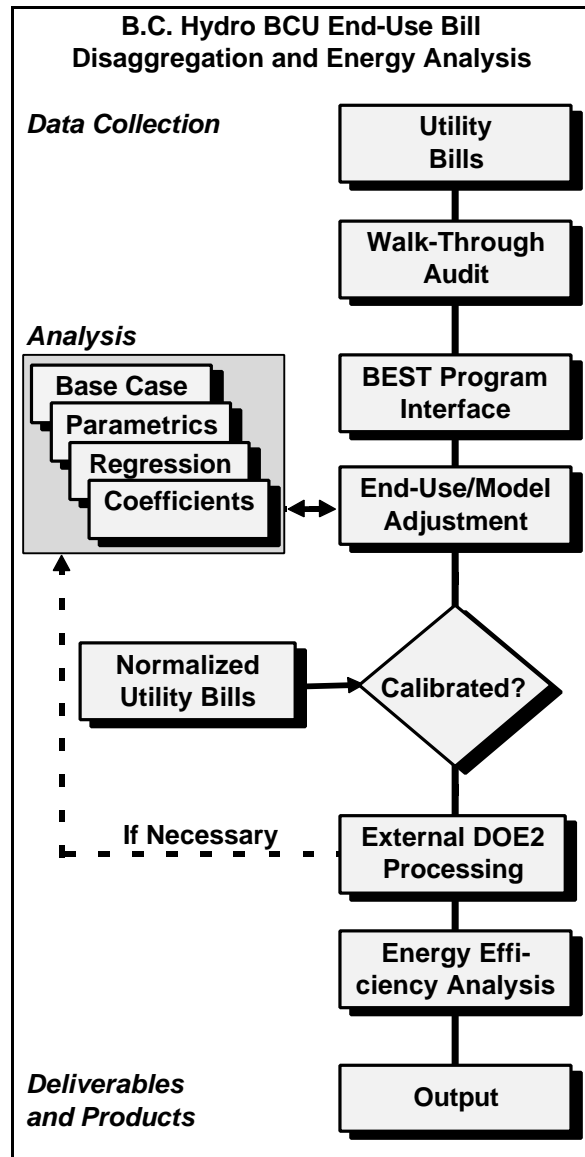

Figure 1. Level II BCU Energy Analysis Process
The process for generating the calibrated end-use energy analysis results for customer involved three general steps: (1) data collection, (2) analysis, and (3) deliverables and products. Figure 1 shows the basic tasks involved in each of these steps.